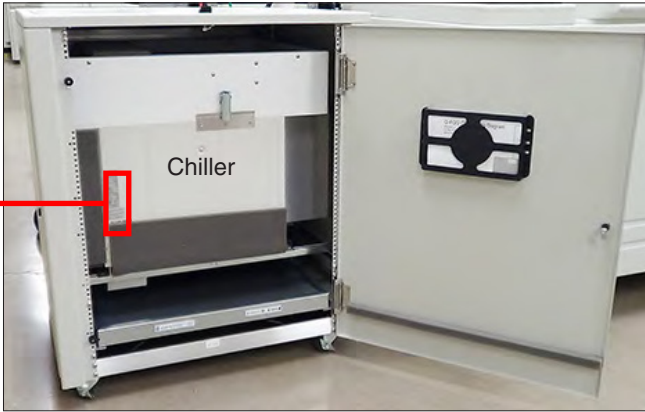

Figure 8.15c: Air Preconditioner chiller specification label location.
- The refrigerant used in the Air Preconditioner chiller is listed on the chiller specification label (Figure 8.15c).